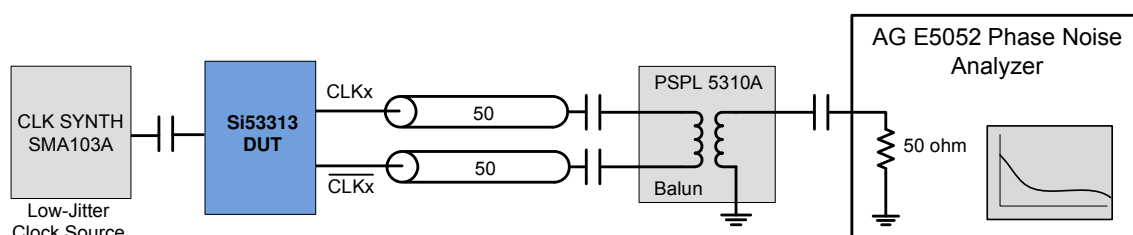

Figure 2. Single-Ended Measurement Method Using a Balun
3. Measured differentially using a balun at the phase noise analyzer input. See Figure 2.